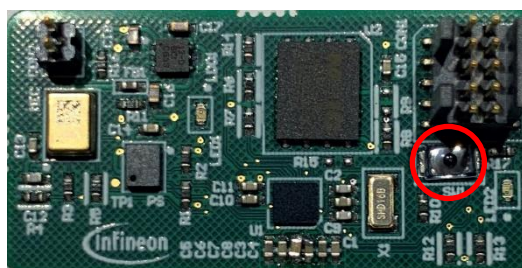

Figure 17 Reset pin of the MicroIAS
3. Click on the reset pin of the MicroIAS board as show in Figure 17.
4. Click on the reset pin of the MicroIAS as show in Figure 17.